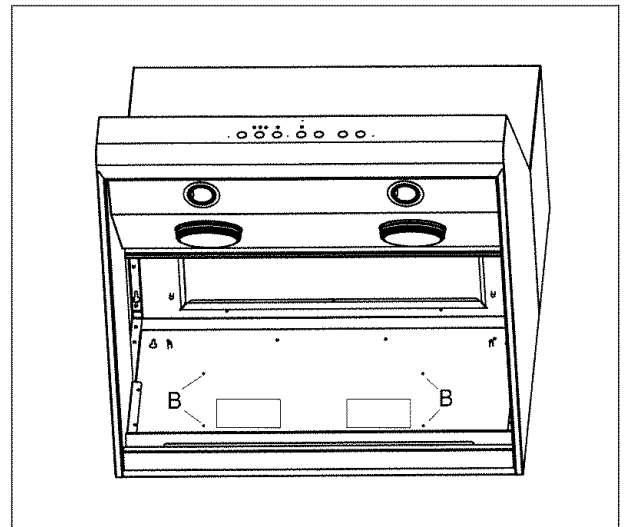

Figure 12c
2. Figure 12c shows the weld studs in location B for horizontal (rear) discharge. Attach four #10-24 nuts to the weld studs. For vertical discharge, attach nuts to studs at the top of the mounting plate.